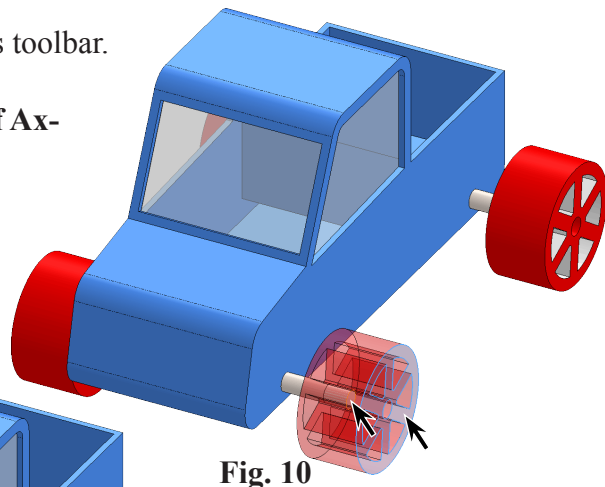

Fig. 10
Step 8. Mate the **side face of Wheels** to **end face of Axles**, **Fig. 10** and **Fig. 11**.